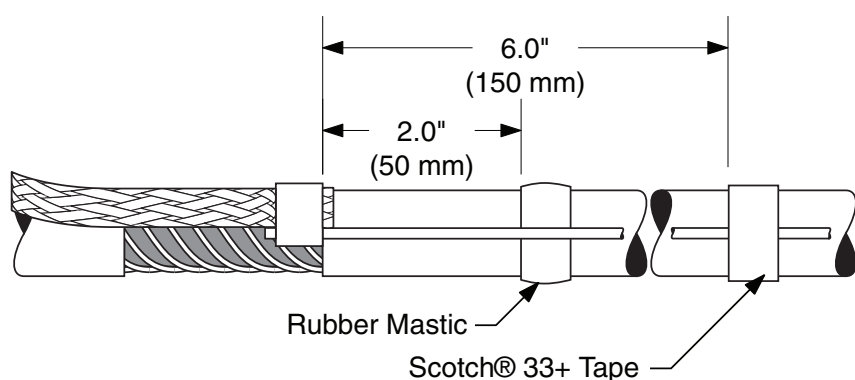

Figure 3
2. At a point 2 inches (50 mm) to one side of the jacket opening, place one wrap of mastic (in kit). (Figure 3)
3. Place ground connector on exposed concentric wires at opening edge with braid extending toward opening. Hold ground wire in place and tightly wrap with 5 layers of tape at a point 6 inches (150 mm) from the opening (Figure 3) to secure the ground wire to the cable.